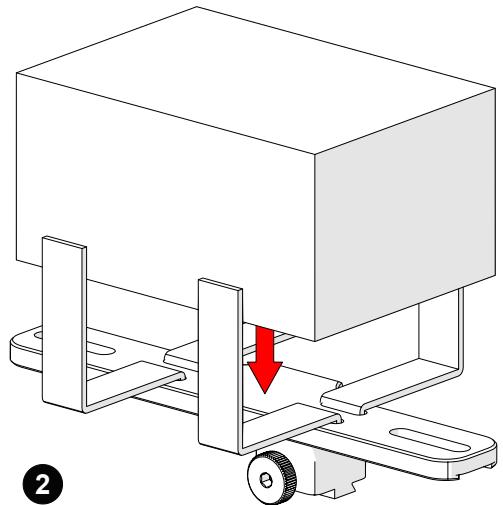

Fig. 84 - Place preamp and wrap velcro
2. Centre and place the preamp on the bracket, wrapping the velcro around the preamp (*Fig. 84*).